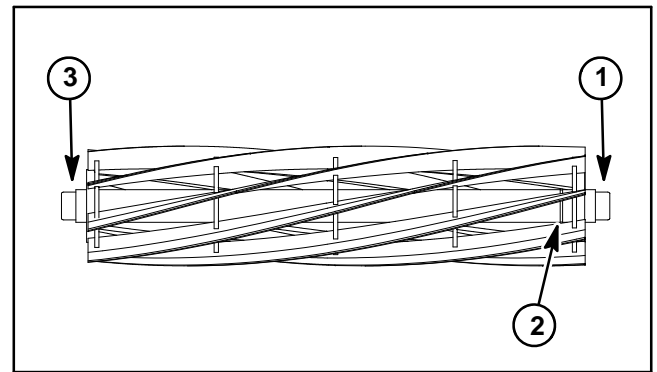

Figure 25
1. Remove bearing lock screw (item 5) and reel nut (item 6) from cutting reel. Reel nut has LH threads and is in end of reel shaft identified with a groove that is just inside of reel spider (Fig. 25).
3. Install bearing lock screw (item 5) and reel nut (item 6) into reel shaft to secure bearings. Reel nut has LH threads and should be installed in end of reel shaft identified with a groove that is just inside of reel spider (Fig. 25).